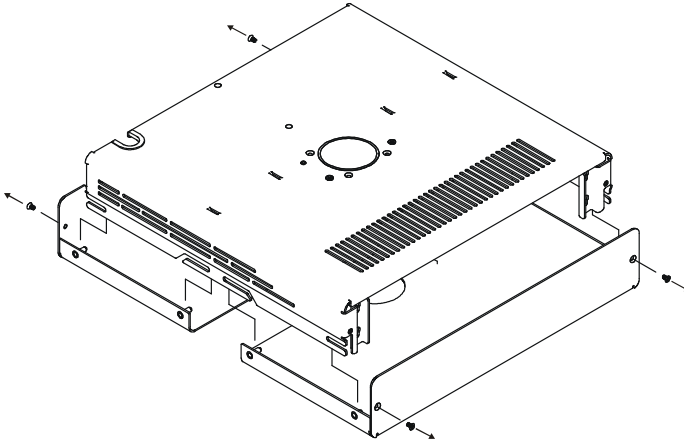

Figure 31: Dismantling the SV-1
1. Dismantle the **SV-1** box by releasing the four screws on the sides (two on each side), as Figure 31 illustrates: